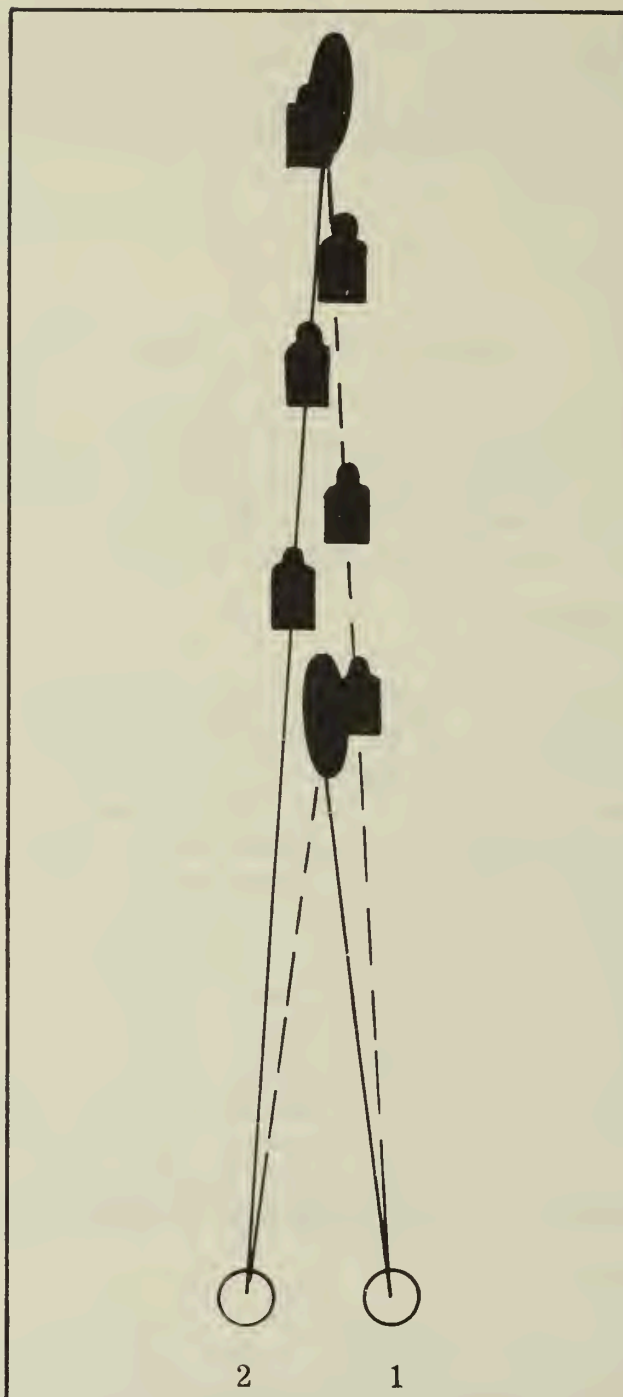

Figure 115. --Engaging a Deep Target.
a. A deep target requires successive changes in elevation. It is engaged with searching fire. If the ends of the target are visible to both gunners, the number one gun opens and adjusts fire on the near end of the target. The number two gun opens and adjusts fire on the far end of the target. Because of the length of the beaten zone, deep targets are never divided. Each gun searches from its initial point of aim to the opposite end of the target. The guns then reverse direction and search back to their original points of aim. (See fig. 115.) They continue to search up and down the target until the squad leader commands or signals CEASE FIRE. If the target is 200 meters or less in depth, the squad leader announces the range to the mid-point in his initial fire command. Both gunners set this range on their rear sights in order to engage the garget. The long beaten zone of the M60 will compensate for the difference between the actual range to either end and the announced range to the midpoint of the target. An example of a fire command to engage such a target is: